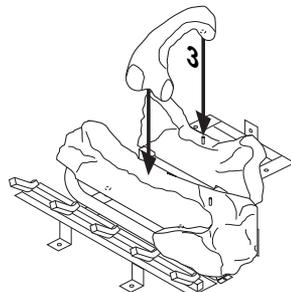

Figure 43 - Installing Log No. 3
3. Place log #3 (crossover log) onto rear and front logs. Make sure it is seated properly on smooth surface of front log and pin on back log as shown in Figure 43.